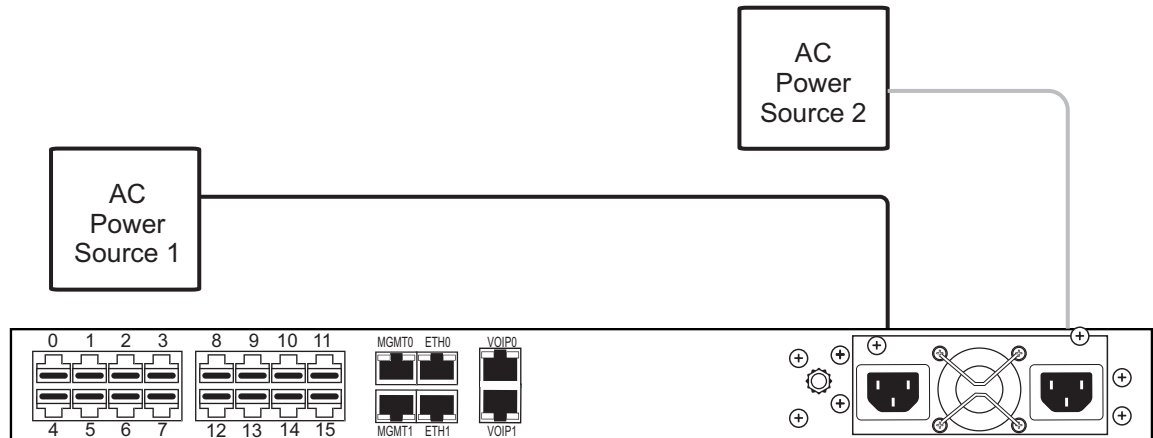

Figure 2.6 AC Power Connection
1. Connect an AC power cable to each AC connector of the TSBC3000 series and an AC supply. See figure 2.6 on page 18.